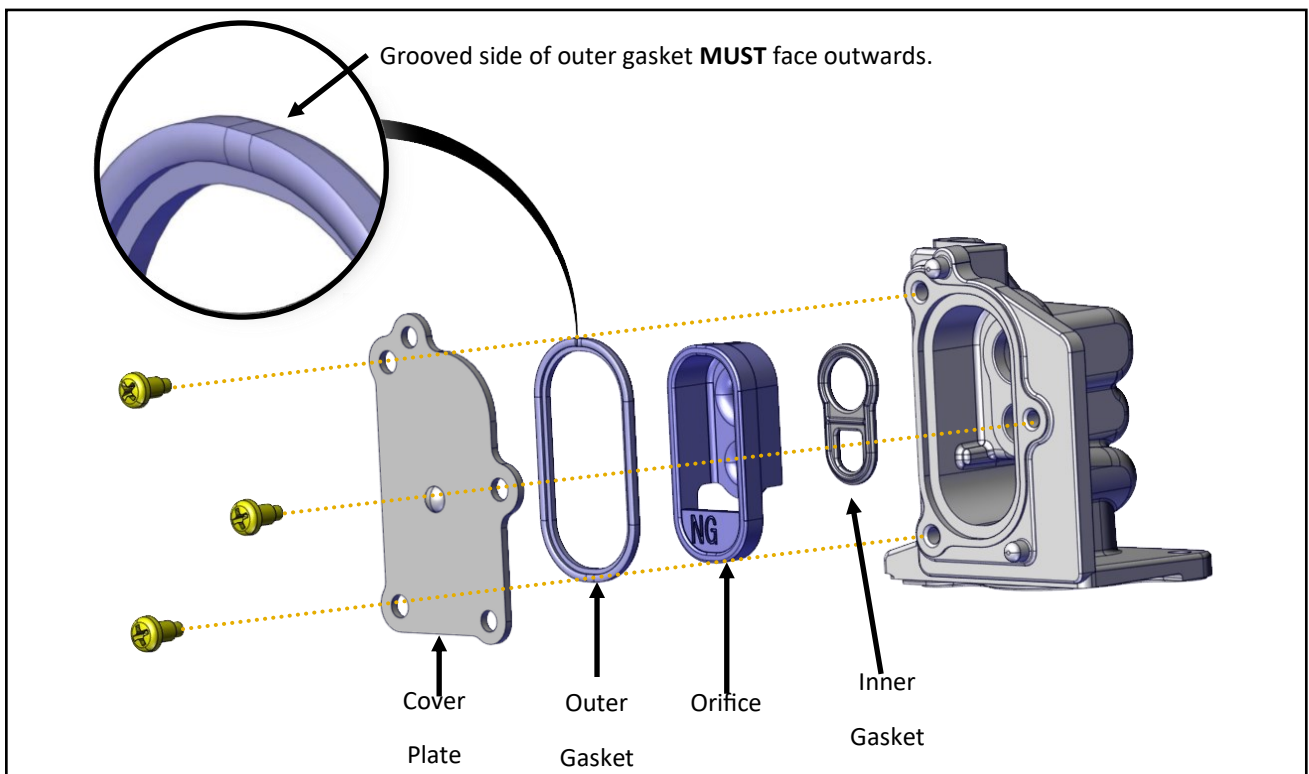

Figure 143
- 8 Remove the plastic orifice from the housing (Figure 143).
- 9 Install the new inner and outer gaskets onto the new orifice (Figure 143).
- 11 Confirm gasket is correctly in place (the grooved side of gasket must be facing outwards) (Figure 143).